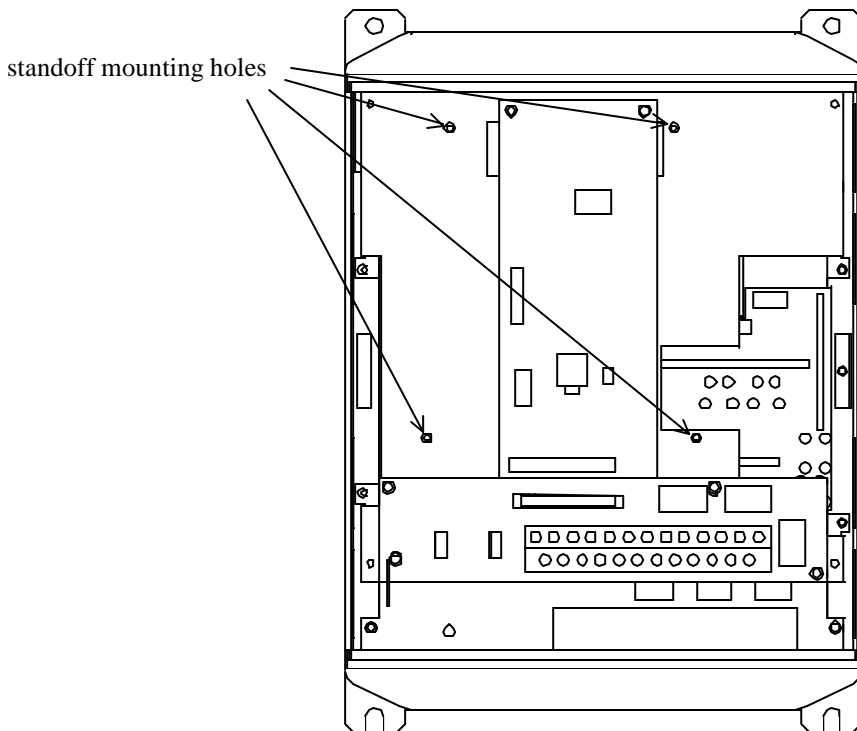

Figure 2: *E11 with front cover and operation panel support bracket removed*
5. Install the 4 nylon standoffs into the holes provided in the control board support bracket (refer to Figure 2).